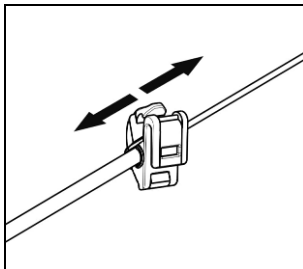

Fig. 16
- Adjust the microphone (Fig. 16).